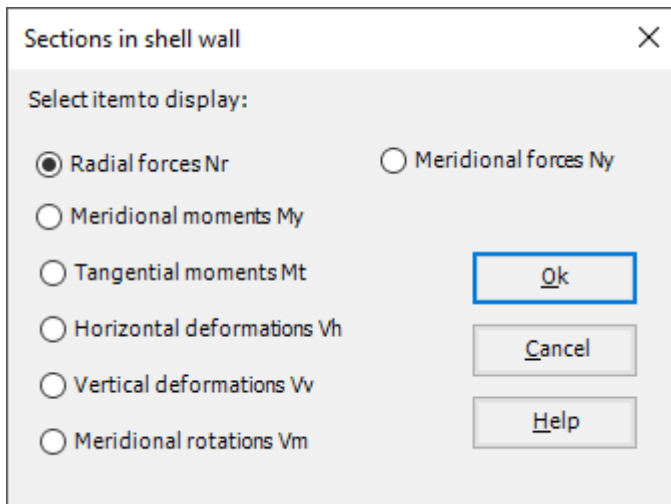

Figure 3.25 "Distribution of Internal Forces" option box
- From "Rotational shell results" command in the "Results" menu, choose "In Plan" command, the following option box in Figure 3.25 appears